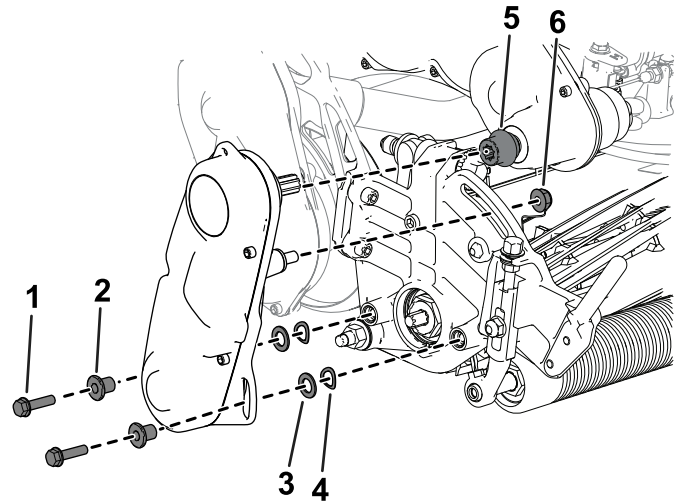

Figure 48
3. Remove the reel-drive assembly from the cutting unit (Figure 48) and retain the hardware.